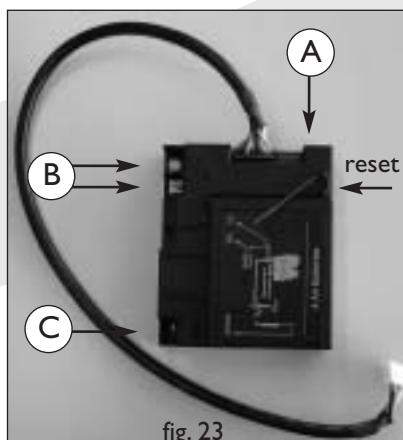

fig. 23
- Connect the thermocouple wiring (fig. 23, arrows B)
- Connect the ignition wiring (fig. 23, arrow C)
- If you are using an adaptor, connect it to the unit (fig 23, arrow A) and plug the appliance in.